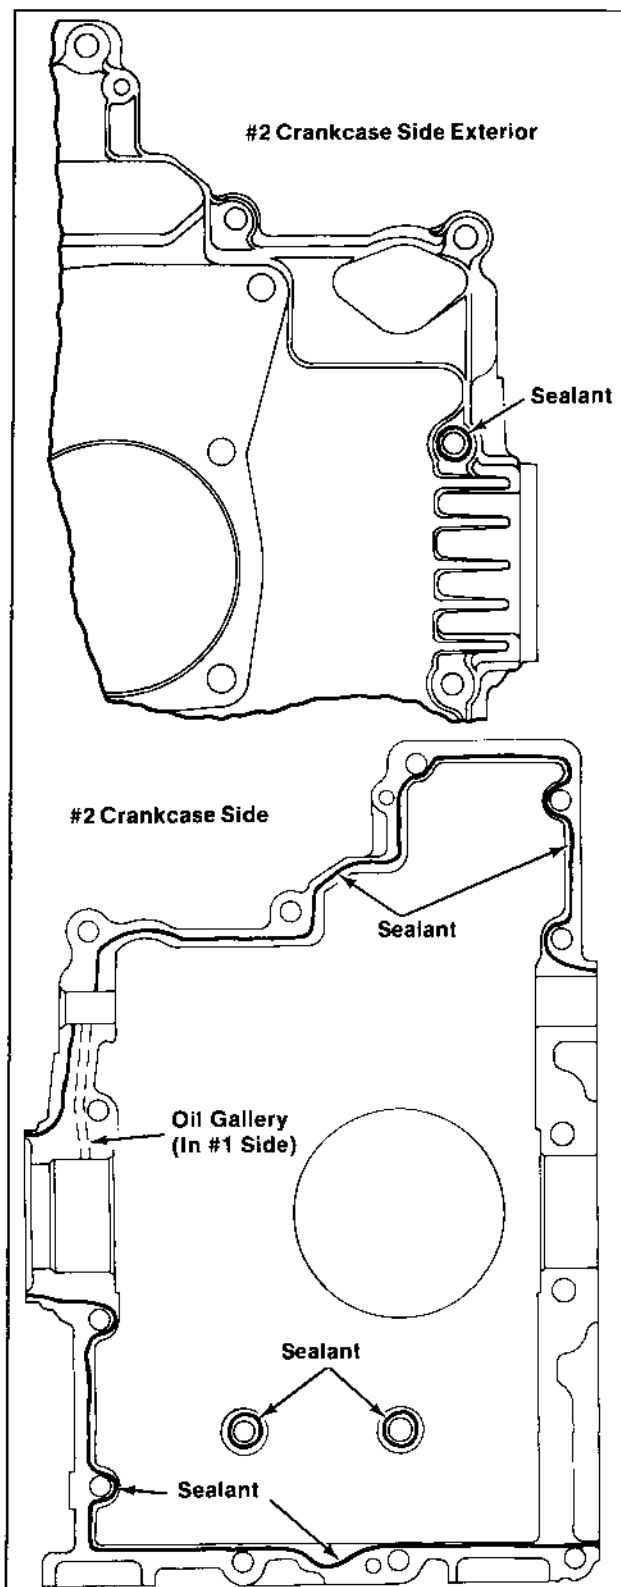

Figure 11-18. Crankcase Sealant Pattern.
2. Apply a $1/16$ " bead of sealant to the #2 crankcase side as shown in Figure 11-18. Follow the sealant manufacturer's recommendations regarding "setting." Recommended sealants are listed below.